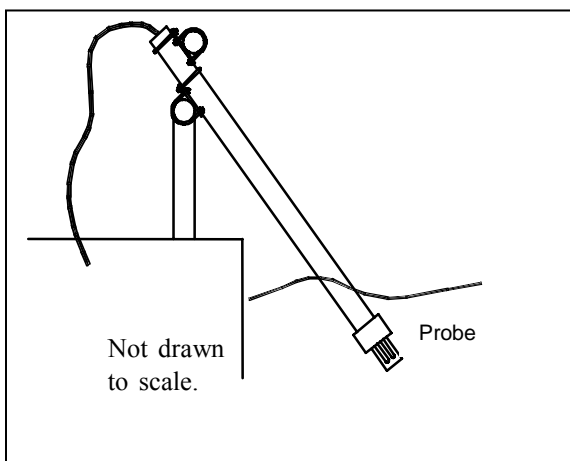

Figure 3-1 Probe orientation (using rail mount kit)
- Ideally, the probe should be placed at an angle within 45° of vertical and directed with the flow direction (see Figure 3-1). This location will provide for the least stress on the support arm holding the probe while minimizing the opportunity to collect debris. Placement against the flow stream or perpendicular to the flow stream also provides accurate monitoring, but inspection and cleaning may be required more frequently due to increased collection of debris.